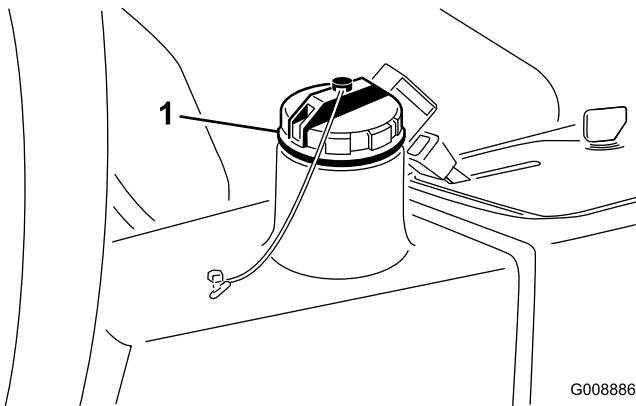

Figure 63
3. Fill the reservoir (Figure 63) with approximately 22.7 liters (6 U.S. gallons) of hydraulic fluid; refer to Checking the Hydraulic System.